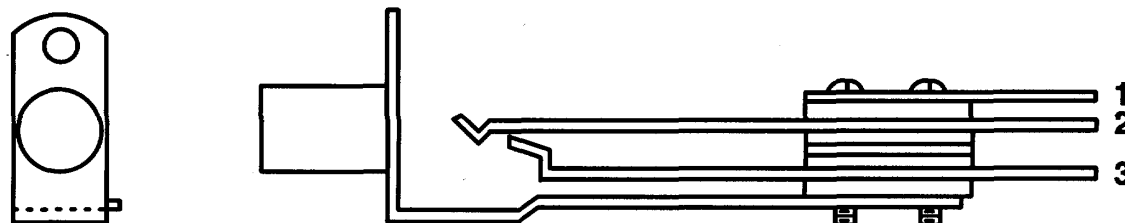

FIGURE 2
- REFER TO FIGURE 2 FOR PIN ASSIGNMENTS OF SINGLE VF JACKS. SOLDER ALL CONNECTIONS. SLEEVE ALL SOLDER CONNECTIONS WITH CLEAR SLEEVING (ITEM 22).